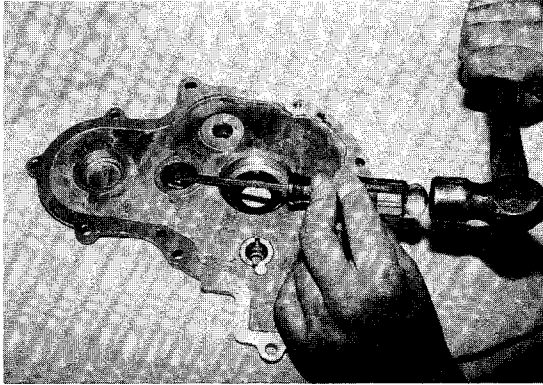
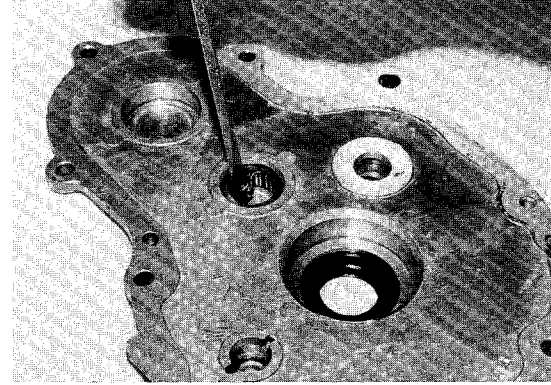

Figure 10-13
Figure 10-14
1. Remove flange nut (51) from cover (53).
2. Press idler shaft (59) out.
3. Remove "O" ring (55), thrust washer (56), needle bearing (57) and reverse idler gear (58) from idler shaft (59).
4. Press oil seal (31) from output shaft bore.
- If needle bearing (60) is damaged, insert a flathead screwdriver between the outer race and retainer of the needle bearing (**Figure 10-13**). Press in screwdriver by tapping on the end of the screwdriver and wrench the retainer free (**Figure 10-14**). Remove the retainer and bearings and discard.